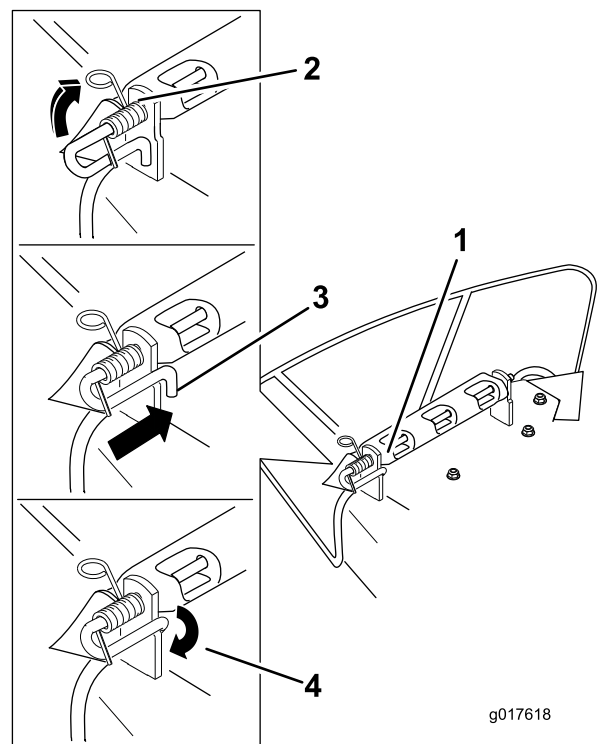

Figure 64
3. Position the new discharge deflector with the bracket ends between the welded brackets on the deck as shown in Figure 64.
6. Lift the loop end of the spring and place it into the notch on the deflector bracket (Figure 64).
7. Secure the rod and spring assembly by twisting it so that the short end of the rod is behind the front bracket welded to the deck (Figure 64).